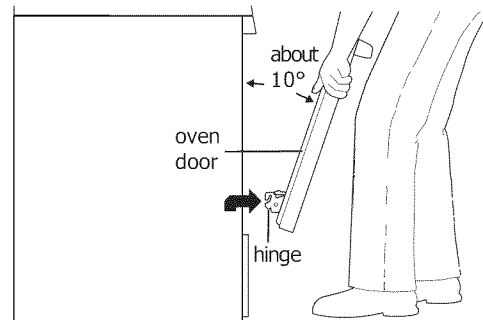

Figure 47: Holding door for removal
3. Firmly grasp both sides of oven door along the door sides. Do not use the oven door handle (See Figure 47).
4. Close the door to 10 degrees from the door frame (See Figure 47).
5. Lift the oven door hinge arms over the roller pins located on each side of the oven frame (See Figure 47).
1. Firmly grasp both sides of oven door along the door sides. Do not use the oven door handle (See Figure 47).
2. Holding the oven door at the same angle as the removal position (See Figure 47), seat the hook of the hinge arm over the roller pins located on each side of the oven door frame (See Figure 48). The hook of the hinge arms must be fully seated onto the roller pins.